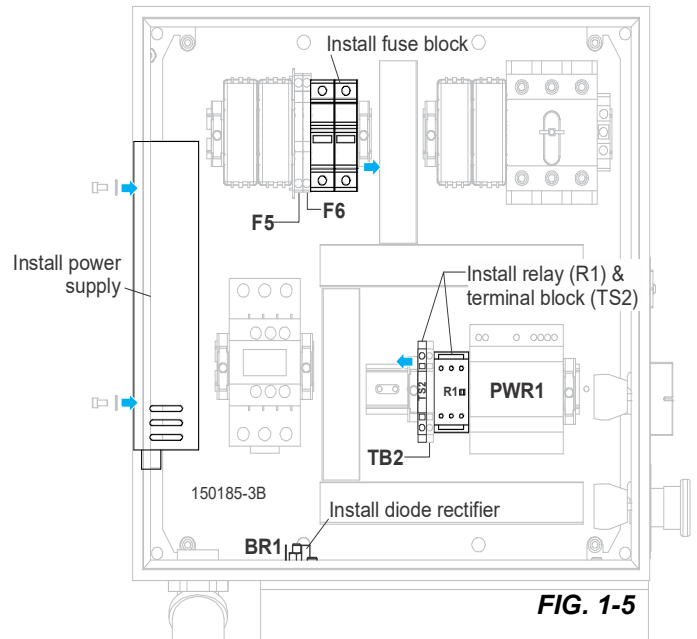

FIG. 1-5
6. Place the provided power supply in position over the mounting holes with the terminal points and wires facing down. Secure with the previously removed 4mm bolts and lock washers. See Fig. 1-5.